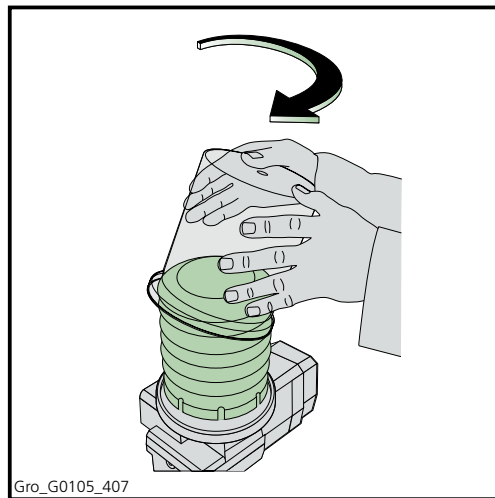

Figure 4.8 Fitting the protection cover
5. Clean the protection cover, place it on the pump (Figure 4.8) and turn it clockwise.